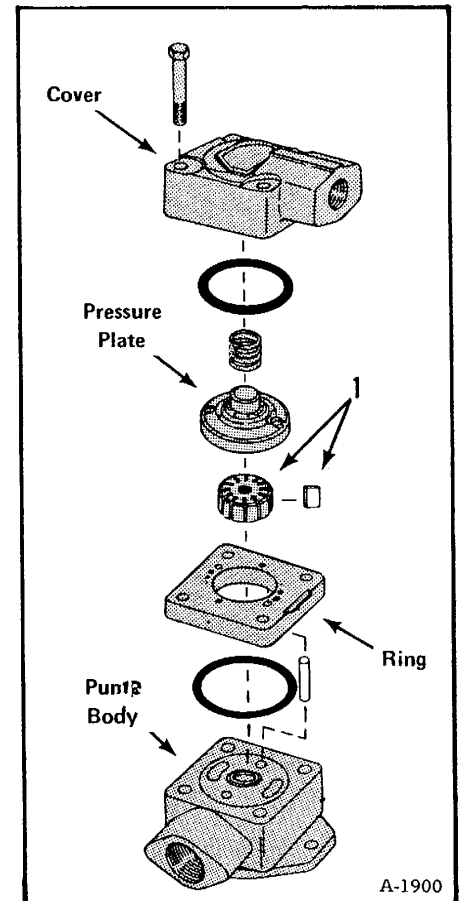

Fig. 2-15 Vane Pump Breakdown
- (1) Hold the pump body in a vise (not over tightened) with the cover end up, and remove the four bolts. Note the position of the cover (outlet) port to the body port before lifting off the cover and O-ring (Fig. 2-15).
- (2) Remove the pressure plate and spring. (Make a mark on the side of the pump as a guide in assembly.) Lift off the ring and remove the locating pins and O-ring.
- (3) Remove the vanes and the rotor (Item 1).